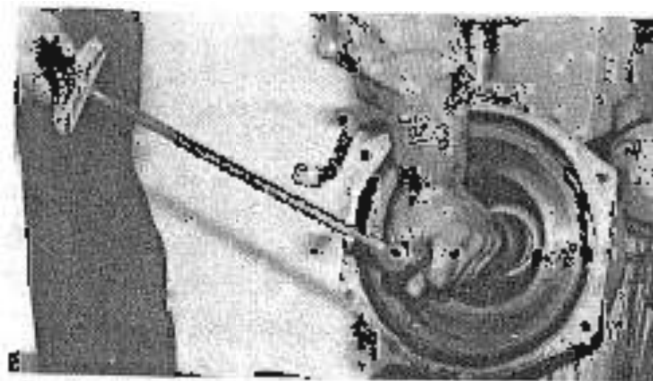

FIG. 10
- (1) Check torque on flywheel nut, 200 ft./lbs. (Fig. 10)